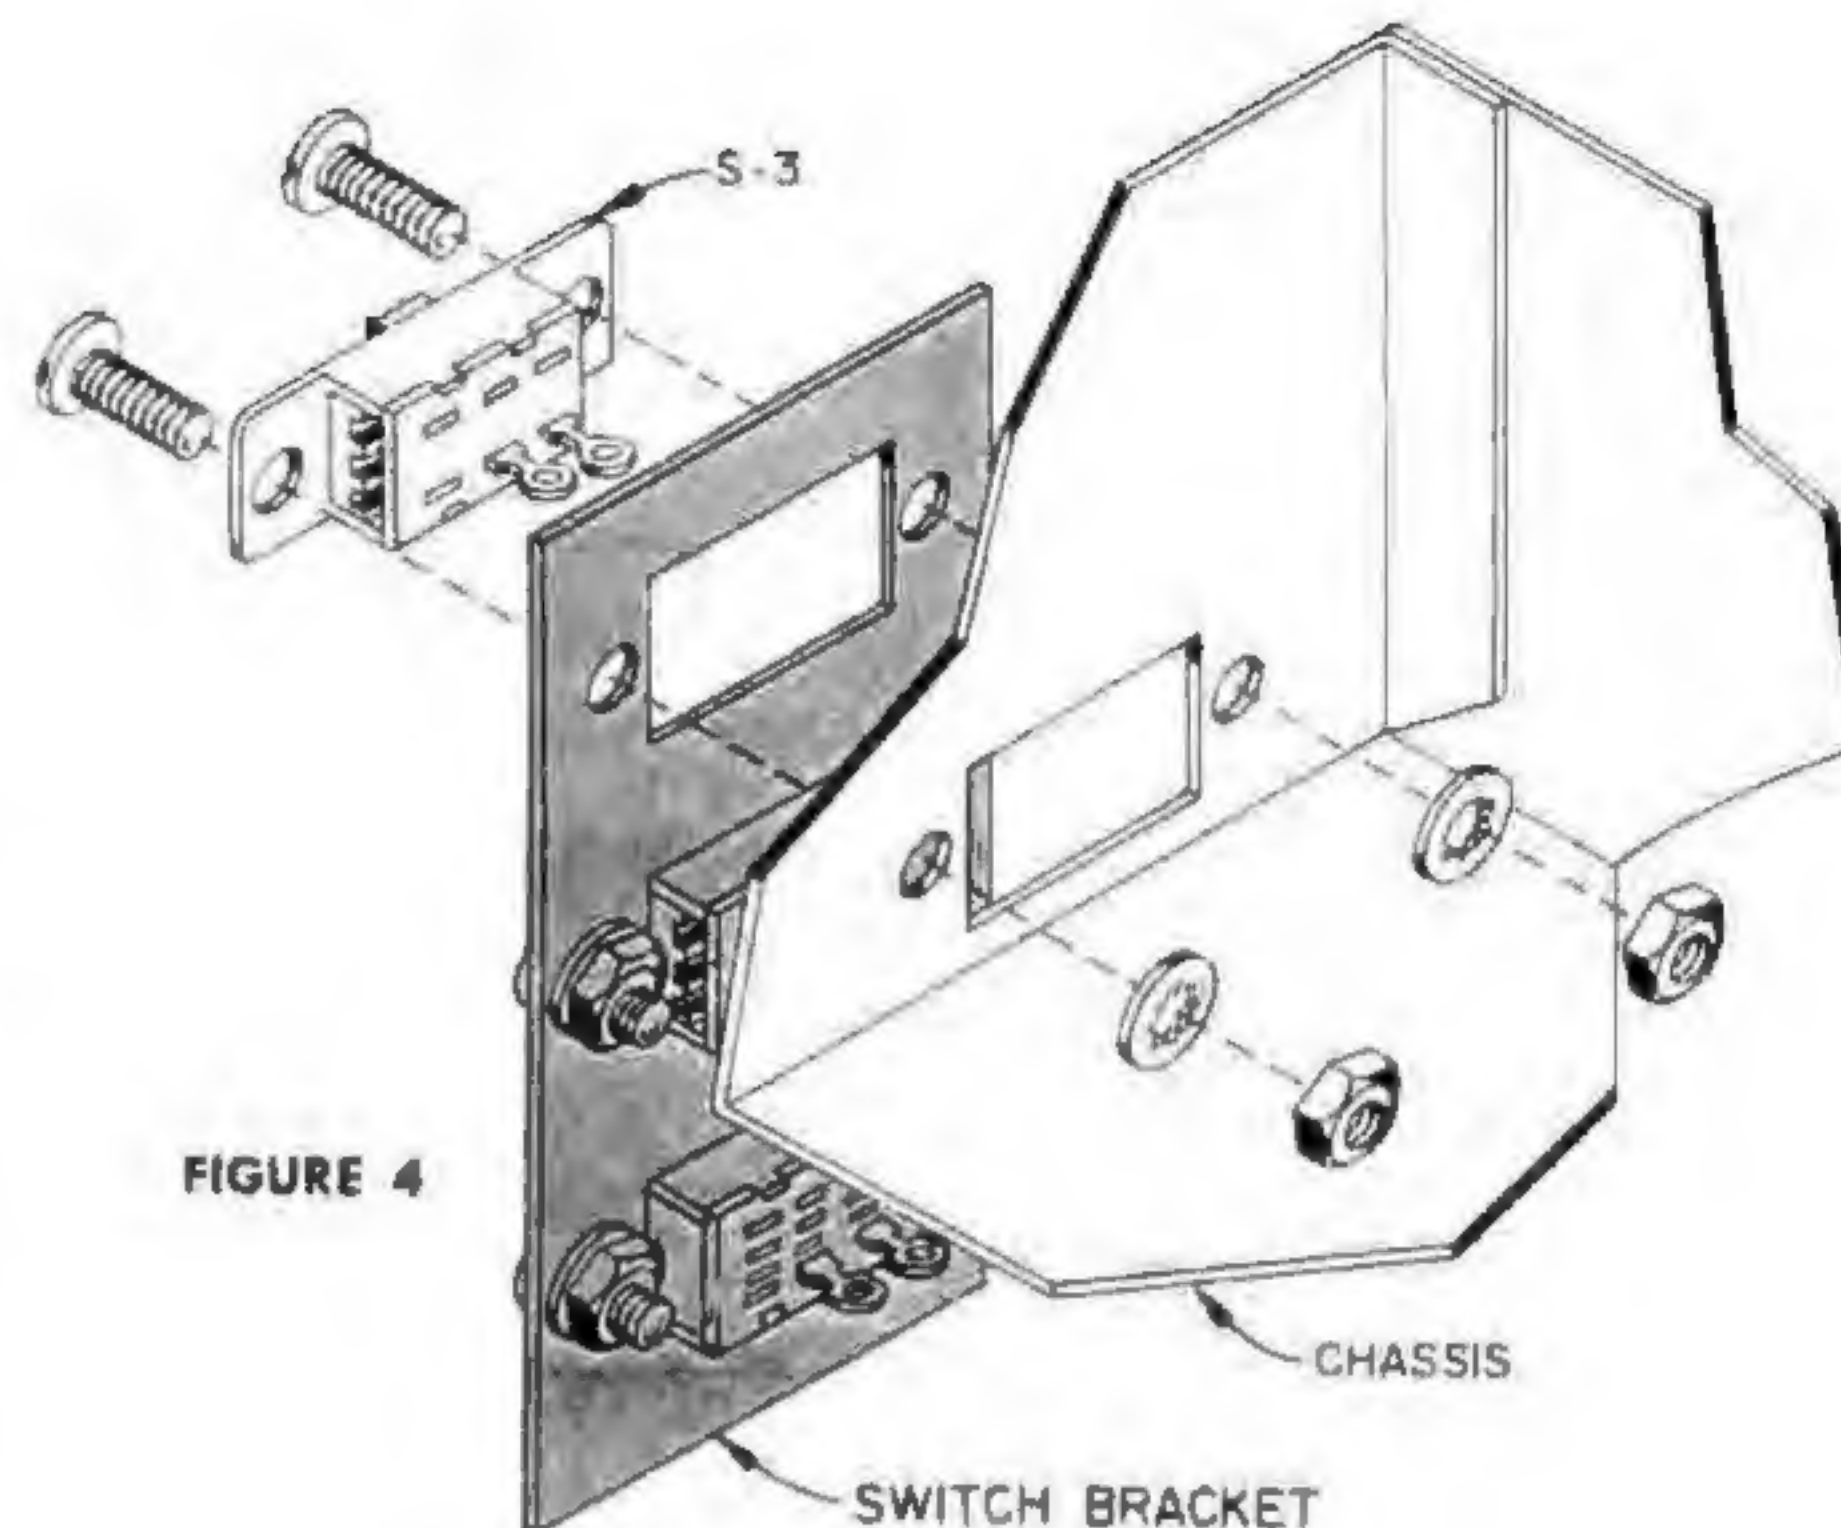

FIGURE 4
- ☐ S-3, the remaining white-button slide switch. Hardware used to mount S-3 will also be used to attach the switch bracket to the chassis. Position S-3 on the switch bracket so the end without a terminal is placed, as shown in Figure 4. Insert two 4-40 screws through S-3, through the switch bracket and through the chassis. Fasten with two lockwashers and nuts.